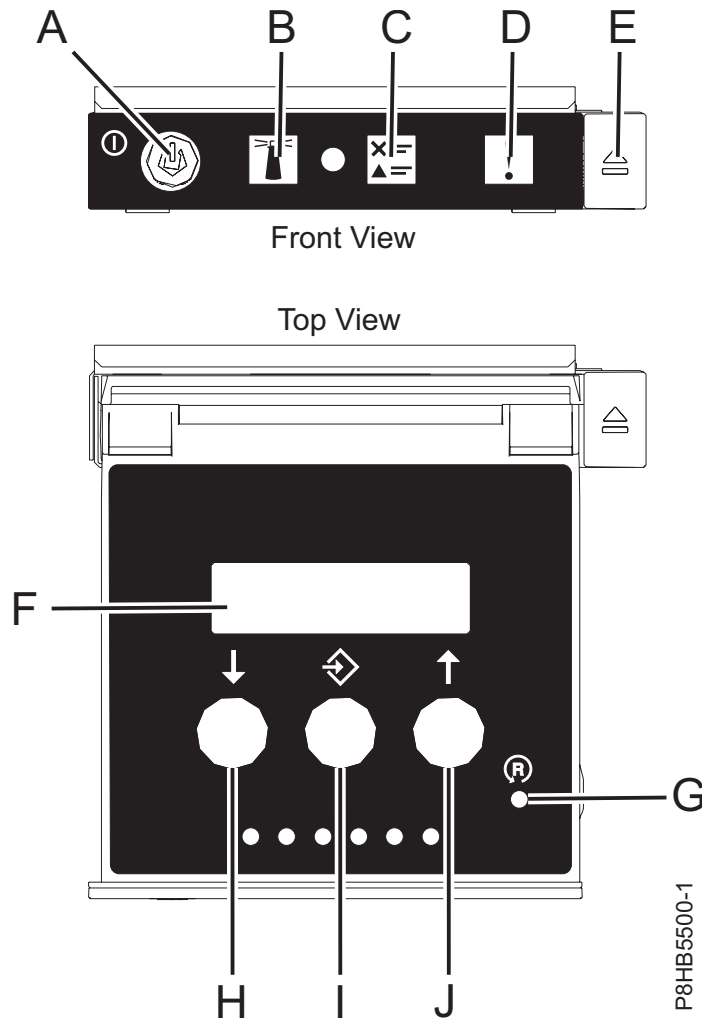

Figure 103. Pinhole switch that is on the control panel
- If you are still not able to access the service network, reset the service processor by pressing the pinhole switch (G) on the control panel. See Figure 103 on page 100.